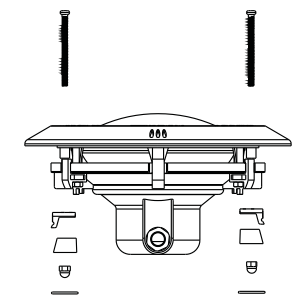

Figure 5
- 1) Remove the old lid by unscrewing the two M6 screw on the lid. Note that the O ring, nuts slide block and the fastening dog will be loosen too by removing the M6 screws on the lid, as shown in figure 5.